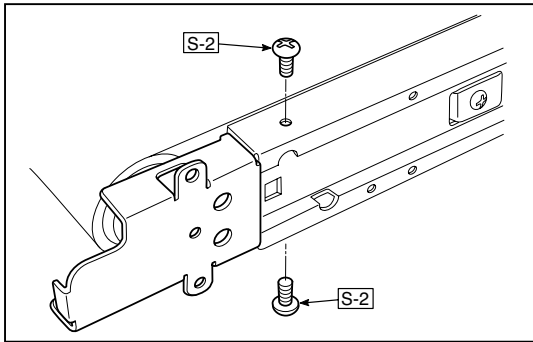

Fig.27
- 1.Remove the "S-2" screws shown in the figure 27.